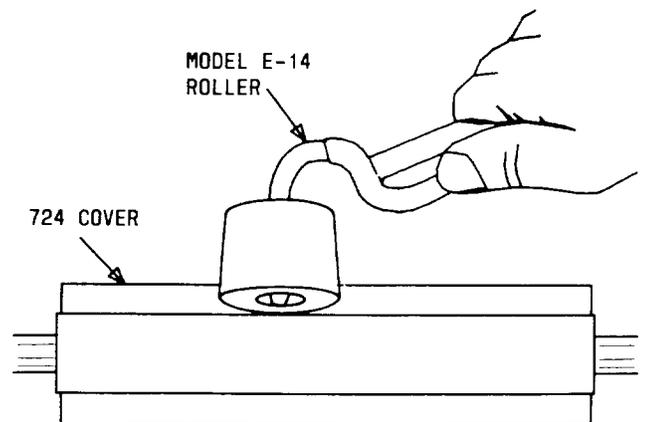

Fig. 14—Installing No. 724 Station Wire Cover
- (1) Cut cover to desired length with knife or cutters.
- (2) Remove paper liner from adhesive, center No. 724 station wire cover over wire, and press firmly in place.
- (3) Roll both edges of cover with E-14 roller (Fig. 14).